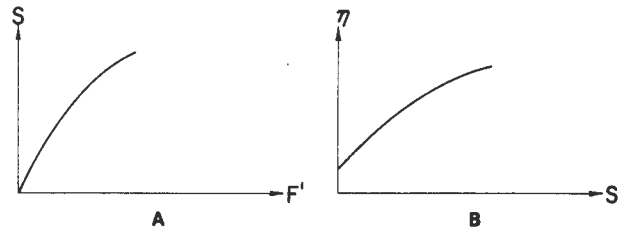

Figure 4-4
**DILATANT.** Increasing viscosity with an increase in shear rate characterizes the dilatant fluid; see Figure 4-4. Although rarer than pseudoplasticity, dilatancy is frequently observed in fluids containing high levels of deflocculated solids, such as clay slurries, candy compounds, corn starch in water, and sand/water mixtures. Dilatancy is also referred to as "shear-thickening" flow behavior.